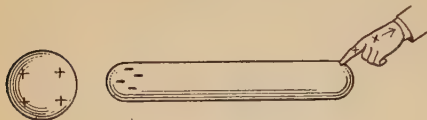

FIG. 214. — Bound charge.
which is repelled, finds its way to the ground through the body, but the negative electricity remains bound (Fig. 214).
7. In the experiment shown in figure 214, why must the finger be removed before the removal of the charged body?